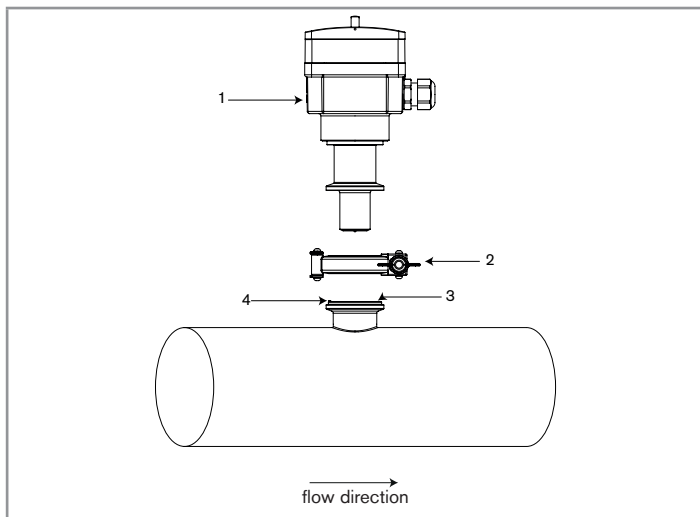

Fig. 9 : Installation into the pipe of a 8045 with a clamp connection
- Install the seal (mark 3 Fig. 9) on the S020 fitting.
- Make sure that the polarizing pin (mark 4 Fig. 9) is on the fitting.
- Insert the device (mark 1 Fig. 9) into the fitting. Position the arrow on the side of the device in the direction of the flow: the totalizers will increment.
- Tighten by hand the clamp collar (mark 2 Fig. 9).